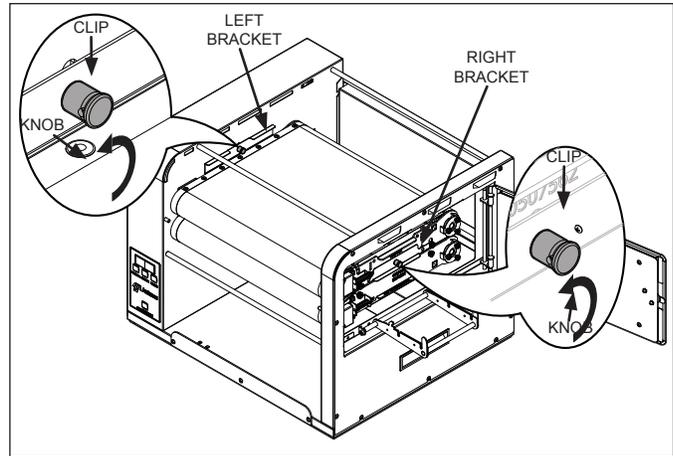

Figure 5.
7. Lock the brackets shown in Figure 5 by rotating the highlighted knob so the brackets drop down into place. Push down on each bracket to ensure they are in position.